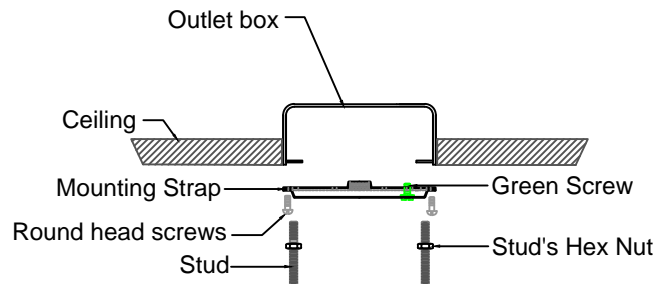

FIGURE-01
1. Attach the mounting strap to the outlet box using screws. Thread the studs into the mounting at the spacing that matches the mounting holes in the canopy. Adjust the studs so they extend 3/16" beyond the canopy. (See Figure -01)